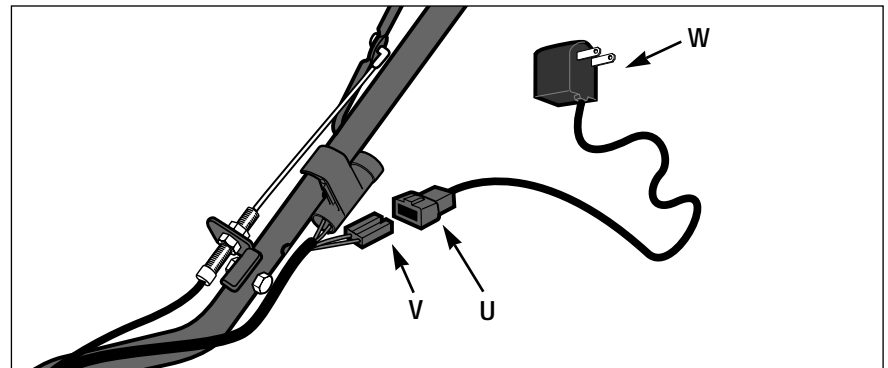

Figure 2-7
2. Connect the small receptacle (U, Figure 2-7) on the battery recharger cord to the wire harness plug (V) located near the keyswitch. Then, plug the charger box (W) into a grounded, 120V wall outlet.
3. Charge the battery for 24 hours. After charging, first unplug the charger box (W) from the wall outlet, then disconnect the recharging line plugs (U and V).